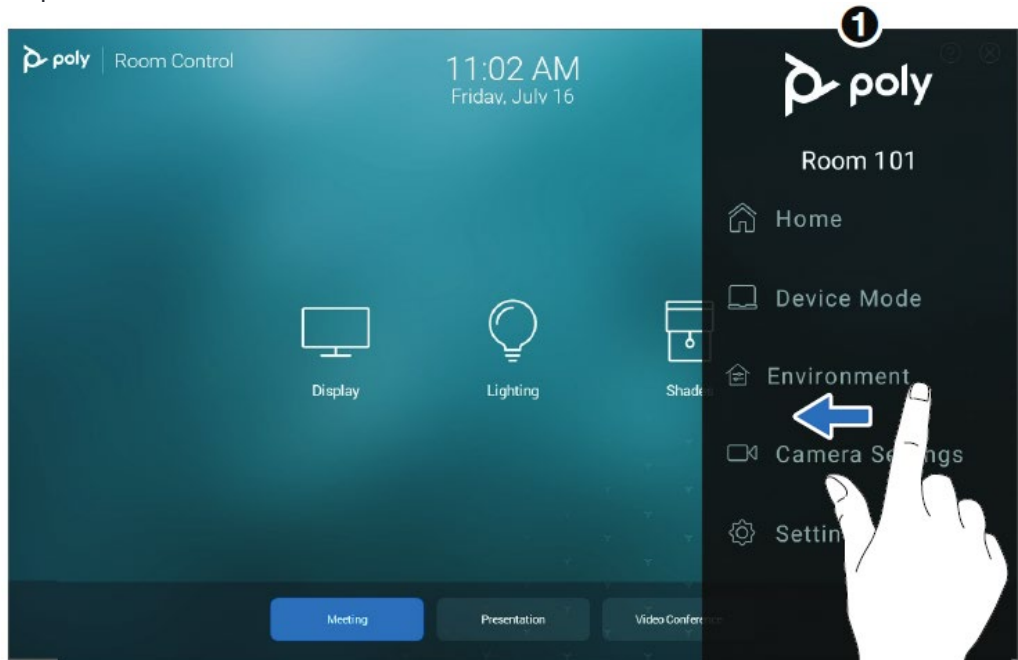

Figure 5. Accessing Environment Control with the Touch Control Side Menu
Users can also access the Extron Environment Control application through the Poly Touch Controller side menu (see figure 5, ❶). This menu can be accessed via a right to left swipe of the screen.